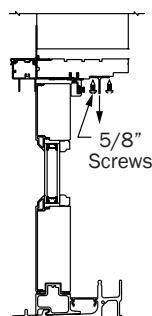

Figure 2
3. Remove T-Rails at the frame head by backing out the 5/8" screws and put aside (Figure 2). These will be re-installed later.